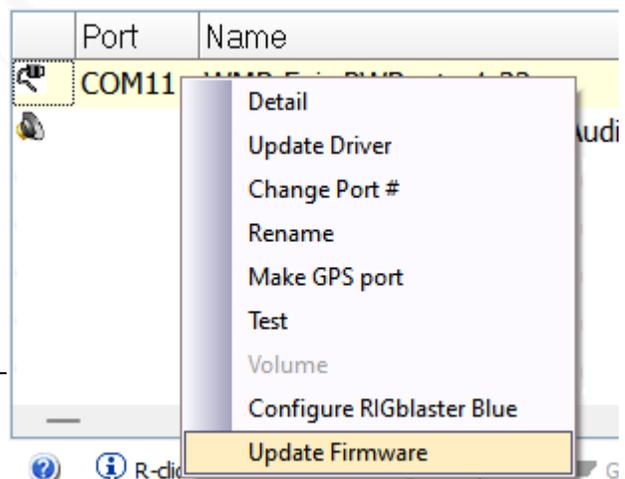

Figure 3
1. Using the mouse, right-click over the COM port number and choose the menu option "Update Firmware" (figure 3)